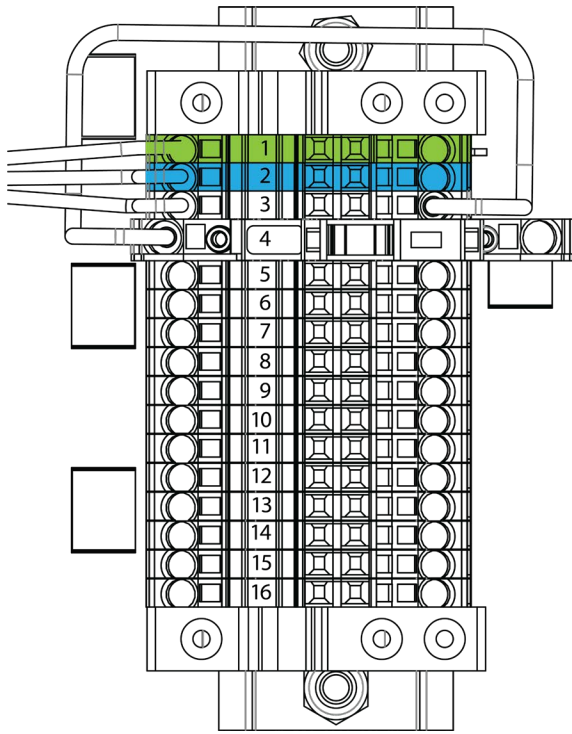

Figure 2.8 3017M terminal block
The 3017M uses WAGO® connectors for power, signal, and alarm connections. See Figure 2.8 and Tables 1 and 2. The individual connector blades are opened by inserting the tip of a narrow, flat-blade screwdriver into the square opening of the connector. Insert the screwdriver tip until it bottoms-out in the connector. Insert the stripped wire and remove the screwdriver. Gently pull on the wire to ensure that the blades of the connector have secured the wire.
4. Connect the three wires to the proper connector using the information in Table 1, Table 2 and Figure 2.8.